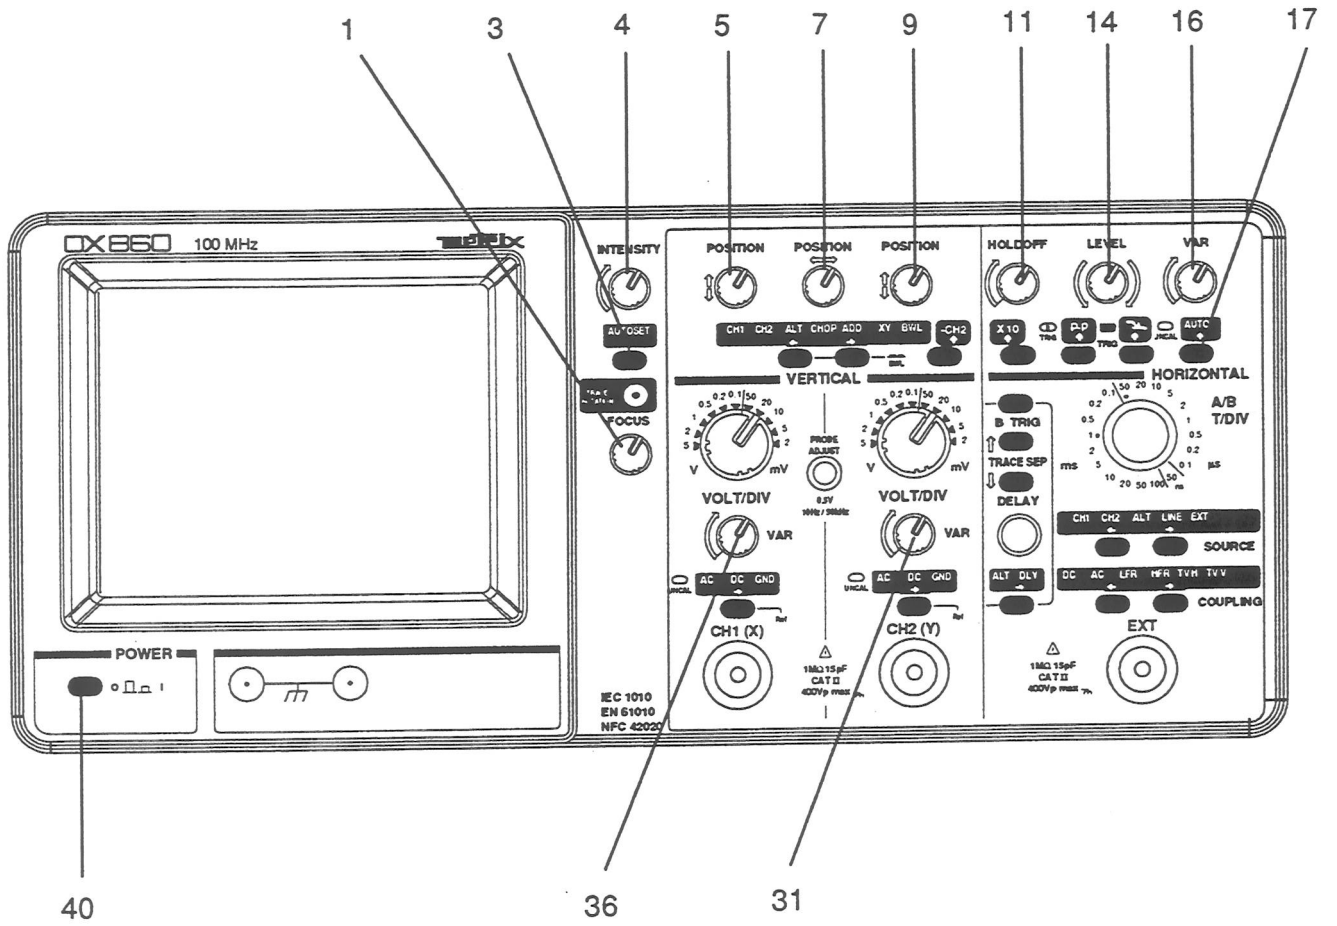

figure 1
- Press the POWER on/off key (40): the last stored configuration is reinstated.
- Valide the key AUTO (17).
- Adjust the intensity (4) and focus (1) (figure 1).
- Briefly press the AUTOSET key (3) (See § 4.1.).
**Note:** If you hold down the AUTOSET key (3), you access the "BEAM FINDER" function.